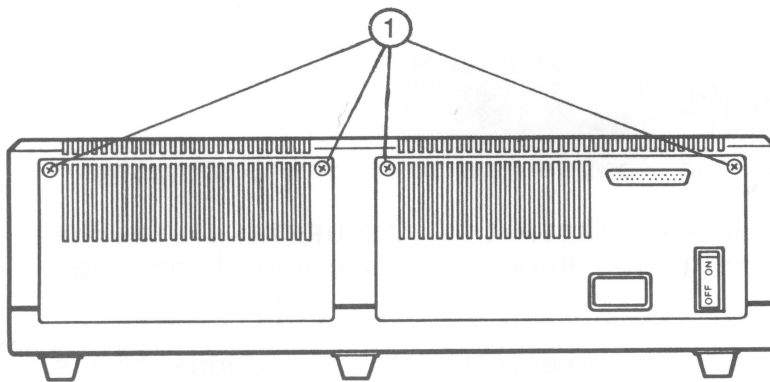

FIGURE 2
3. Turn the ProFile right side up; remove the four screws from the two plates on its back (Figure 2, #1).
2. Attach the customer's two rear plates to the exchange unit using the four screws. Do not tighten the screws at this time (Figure 2, #1). **NOTE:** The serial number is stamped on one of the rear plates and must be transferred to the ProFile which the customer will keep.